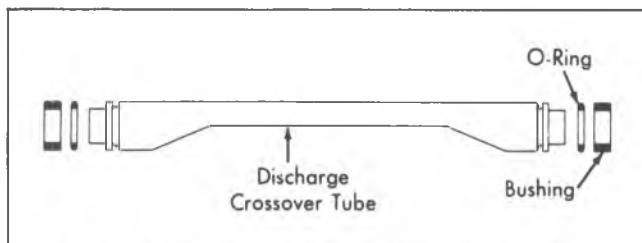
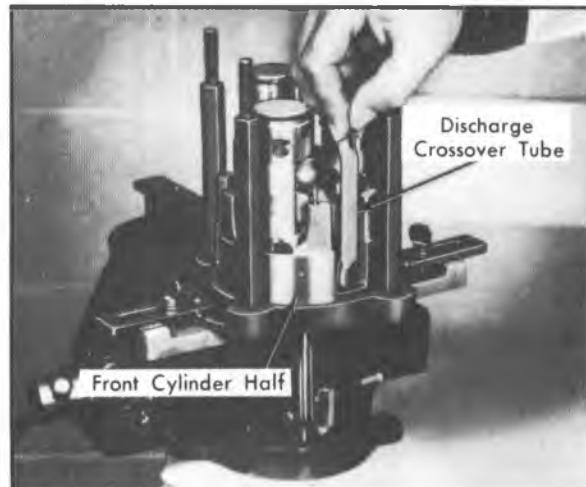

Fig. 52--Service-Type A-6 Discharge Cross-Over Tube
Fig. 53--Installing Discharge Crossover Tube
5. Without installing any O-rings or bushings, assemble one end of the new Service discharge cross-over tube into the hole in the front cylinder half (Fig. 52 and 53). Be sure the flattened portion of this tube faces the **inside** of the compressor to allow for axial plate clearance (Fig. 53).
2. Now install new O-ring and bushing on **front-end** of discharge cross-over tube (Fig. 56). The O-ring and bushing are Service parts only for internal mechanisms that have been disassembled in the field (see Fig. 52).
15. Install new O-ring and bushing on **rear-end** of discharge cross-over tube (See Fig. 52).